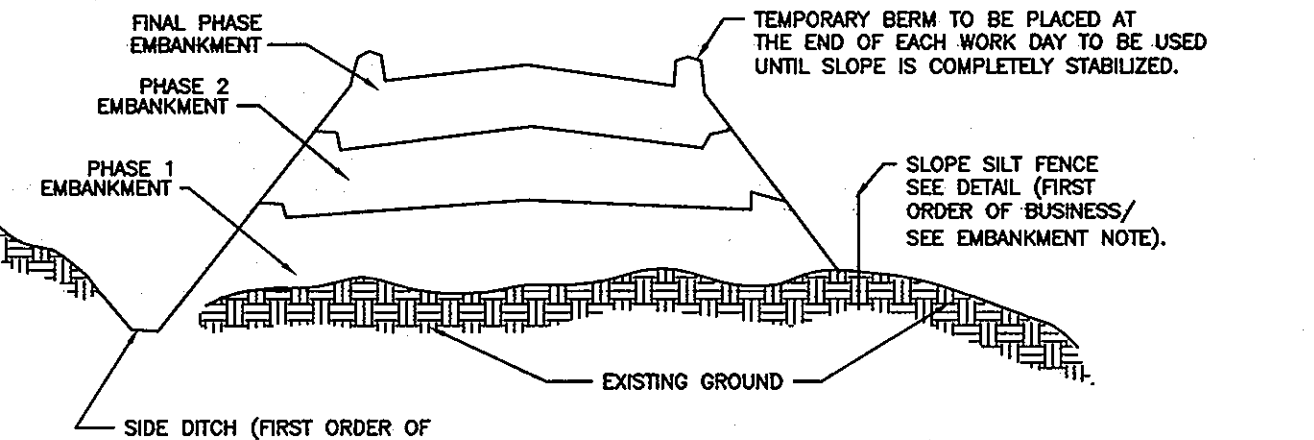

Figure 5 Incremental Stabilization - Embankment Fill Comply with MD 378 Specifications.
- iv. Construction sequence: Refer to Figure 5 (below):
- i. Select one or more of the species or mixtures listed in Table 26 for the appropriate Plant Hardiness Zone (from Figure 5) and enter them in the Temporary Seeding Summary below, along with application rates, seeding dates and seeding depths. If this Summary is not put on the plans and completed, then Table 26 must be put on the plans.
- i. Select one or more of the species or mixtures listed in Table 25 for the appropriate Plant Hardiness Zone (from Figure 5) and enter them in the Permanent Seed Summary below, along with application rates and seeding dates. Seeding depths can be estimated using Table 25. If this Summary is not put on the construction plans and completed, then Table 25 must be put on the plans. Additional planting specifications for exceptional sites such as shorelines, streambanks, or dunes or for special purposes such as wildlife or athletic treatment may be found in USDA-SCS technical Field Office Guide, Section 342 - Critical Area Planting. For special low maintenance areas, see Section IV Sod and V Turfgrass.